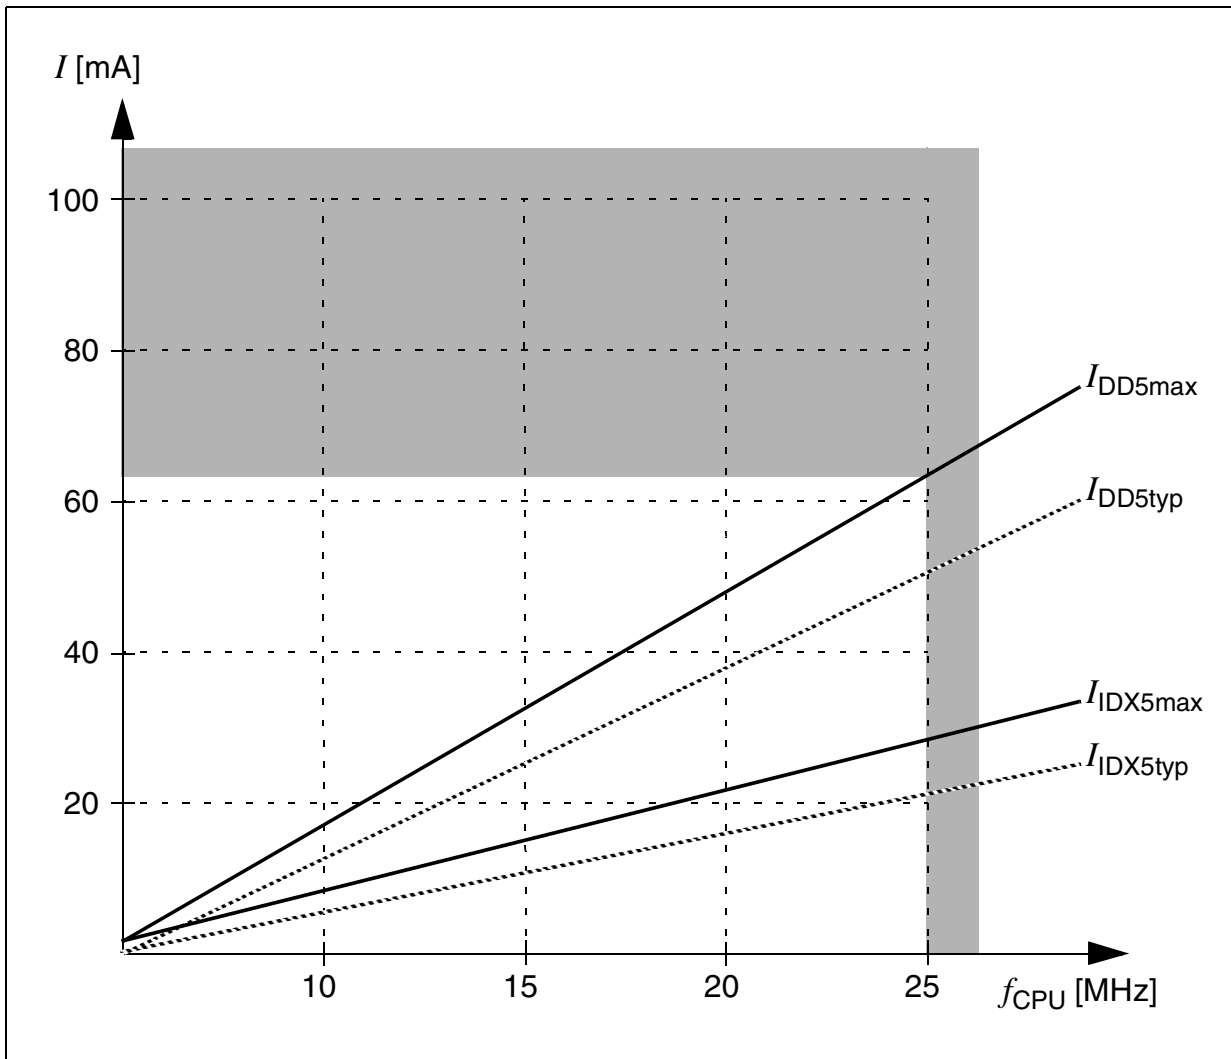

Figure 9 Supply/Idle Current as a Function of Operating Frequency for ROM Derivatives
1) The supply current is a function of the operating frequency. This dependency is illustrated in Figure 9. These parameters are tested at V_{DDmax} and maximum CPU clock with all outputs disconnected and all inputs at V_{IL} or V_{IH} .